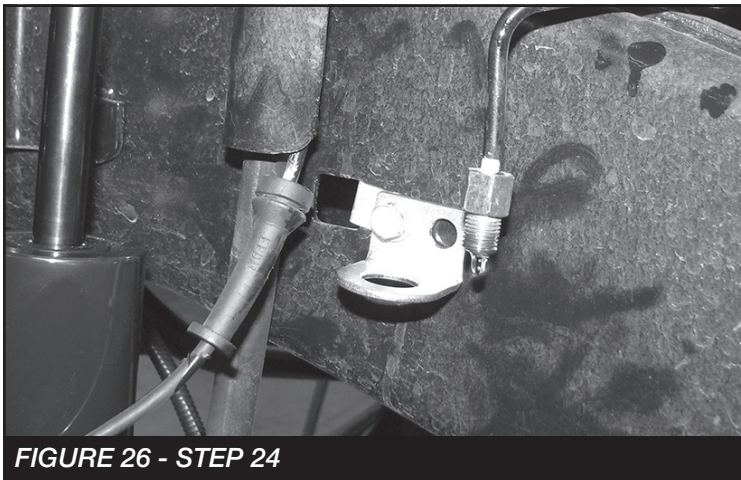

FIGURE 26 - STEP 24
24. Install the supplied brake line bracket in the factory location using the factory bolt. **SEE FIGURE 26**